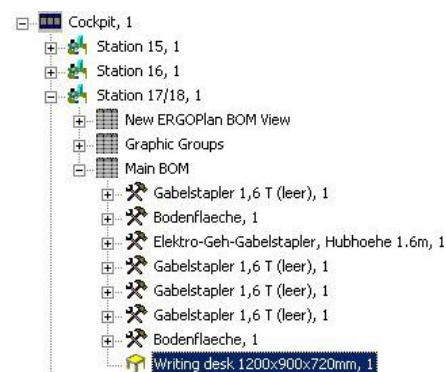

Figure 78: Aim - Splay Working Table in Station 17/18
- 3) The new structure is assigned to the object. The old position in the graphic remains unaffected. Please refer to the Figure 78.